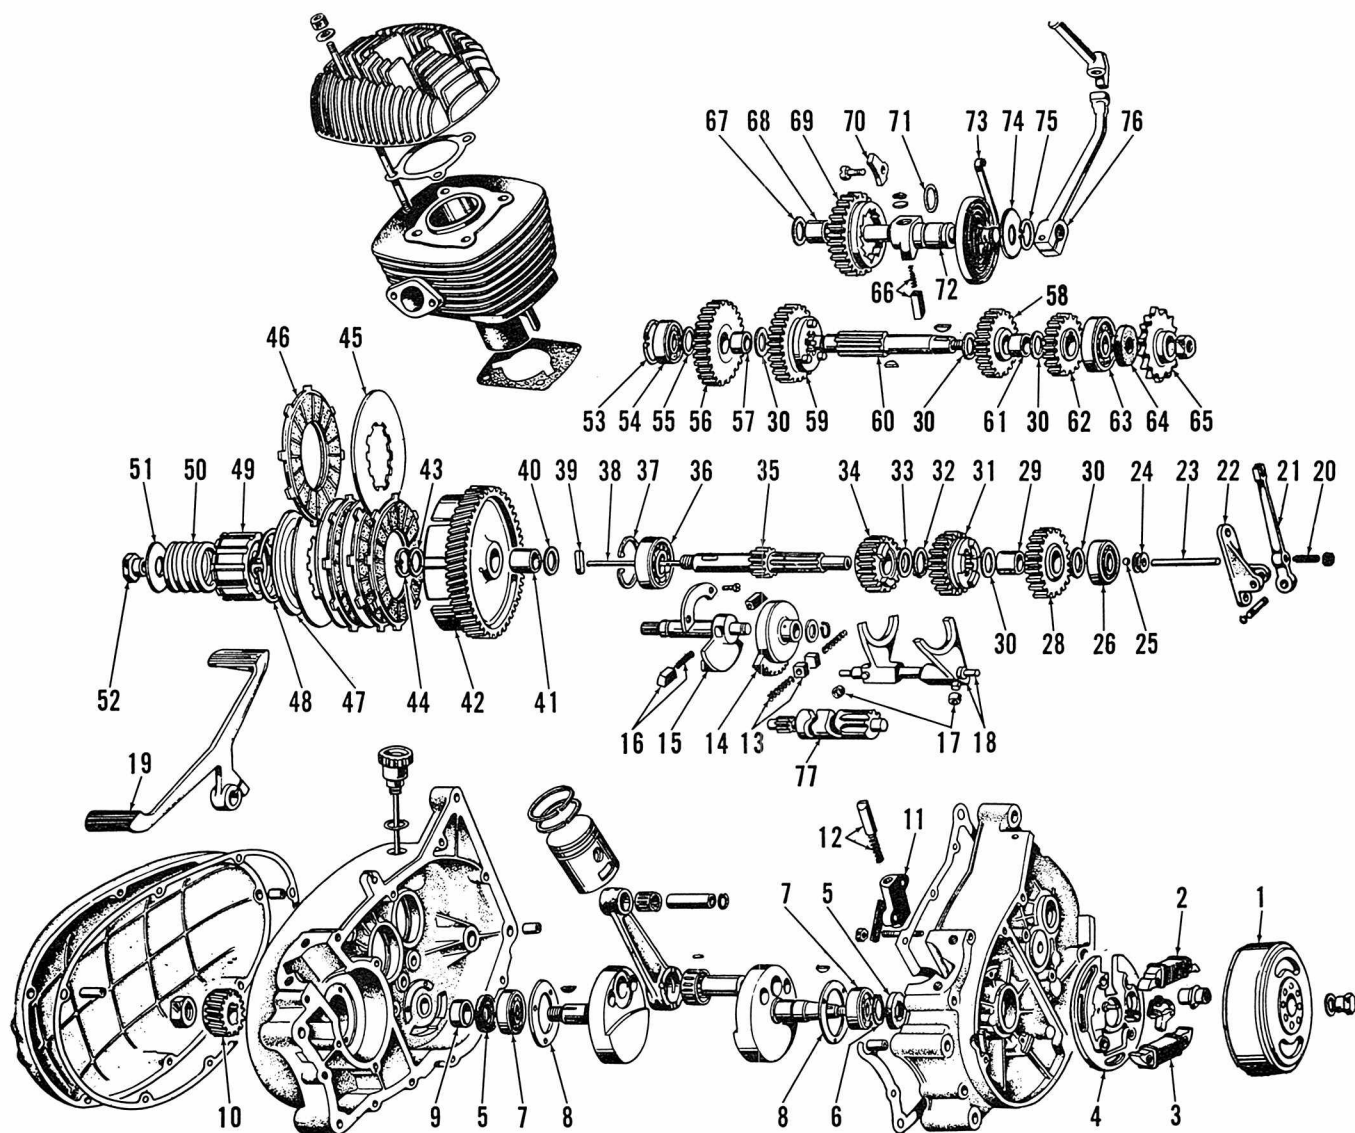

Fig. BE1-6—Exploded view of engine and transmission.
justment is possible by turning the adjusting screw (20—Fig. BE1-6) in clutch lever under the engine left side cover.
**CLUTCH.** The manual, multiple disc wet type clutch is mounted on the right end of the transmission input shaft as shown in Fig. BE1-6. The clutch is actuated by lever (21) on left side and rods (23 & 38) which go through center of the input shaft. The actuating block (39) is used as drive key and disengaging block. When reassembling, smooth side of pressure plate (47) should be toward retaining ring (48). Tighten nut (52) to 36 Ft.-Lbs. torque.
four nuts and eleven screws and separate the crankcase halves. Refer to Fig. BE1-6. When assembling, the gears and shaft can be assembled in the left half of crankcase and right half can be assembled over the shafts.